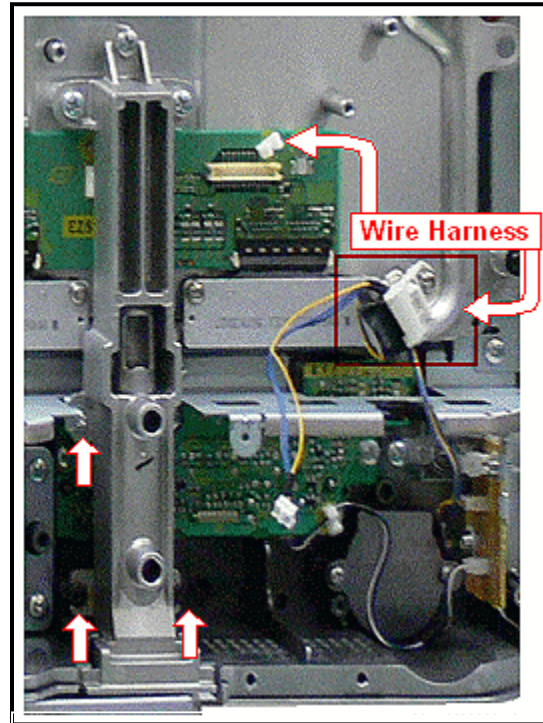

Figure 34. Right Stand Bracket
5. Install the three screws of the right stand bracket as indicated in figure 34.